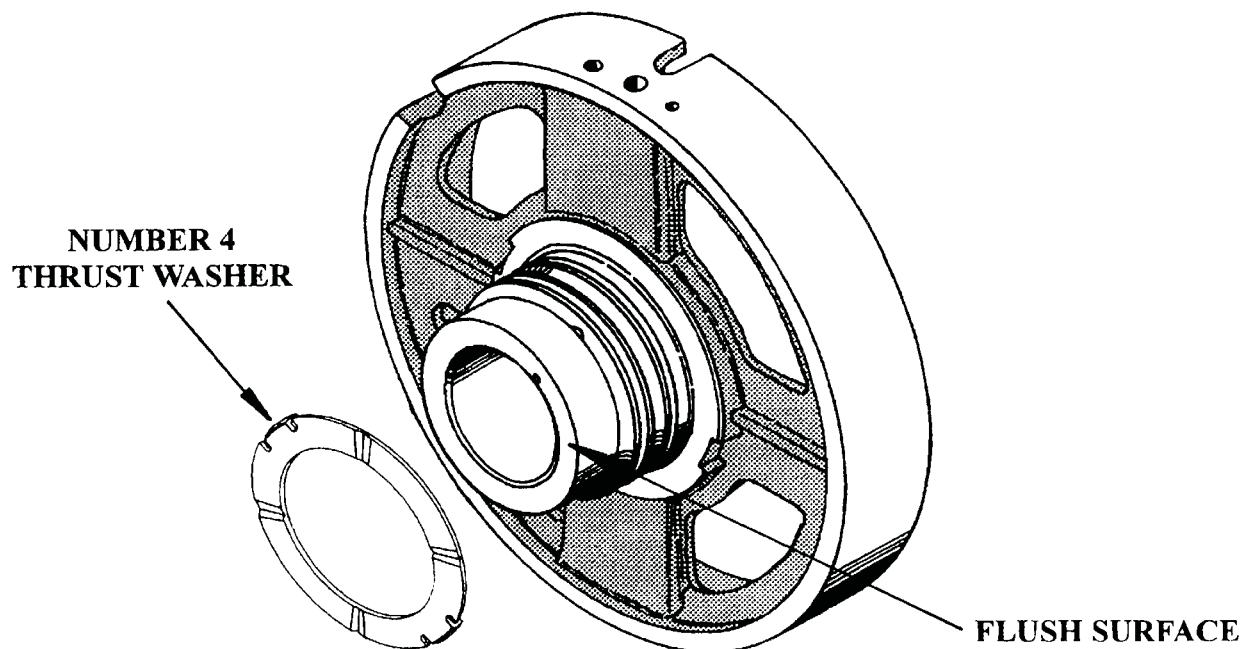
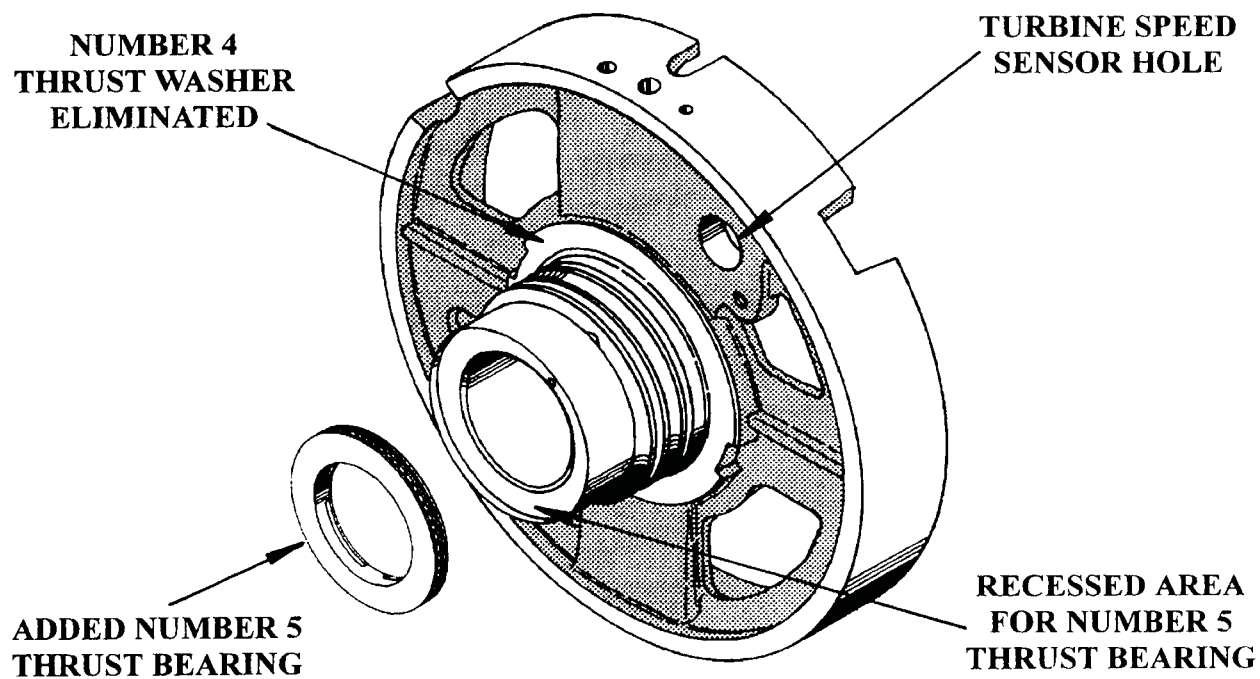

Figure 37
Figure 38
The new design center support also has a machined recess at the base of the sealing ring hub to accommodate the newly added number 5 thrust bearing (See Figure 38). Remember, the number 4 thrust washer was eliminated when this change occurred (See Figure 37).
2. Machined recess for added number 5 thrust bearing (See Figure 38).